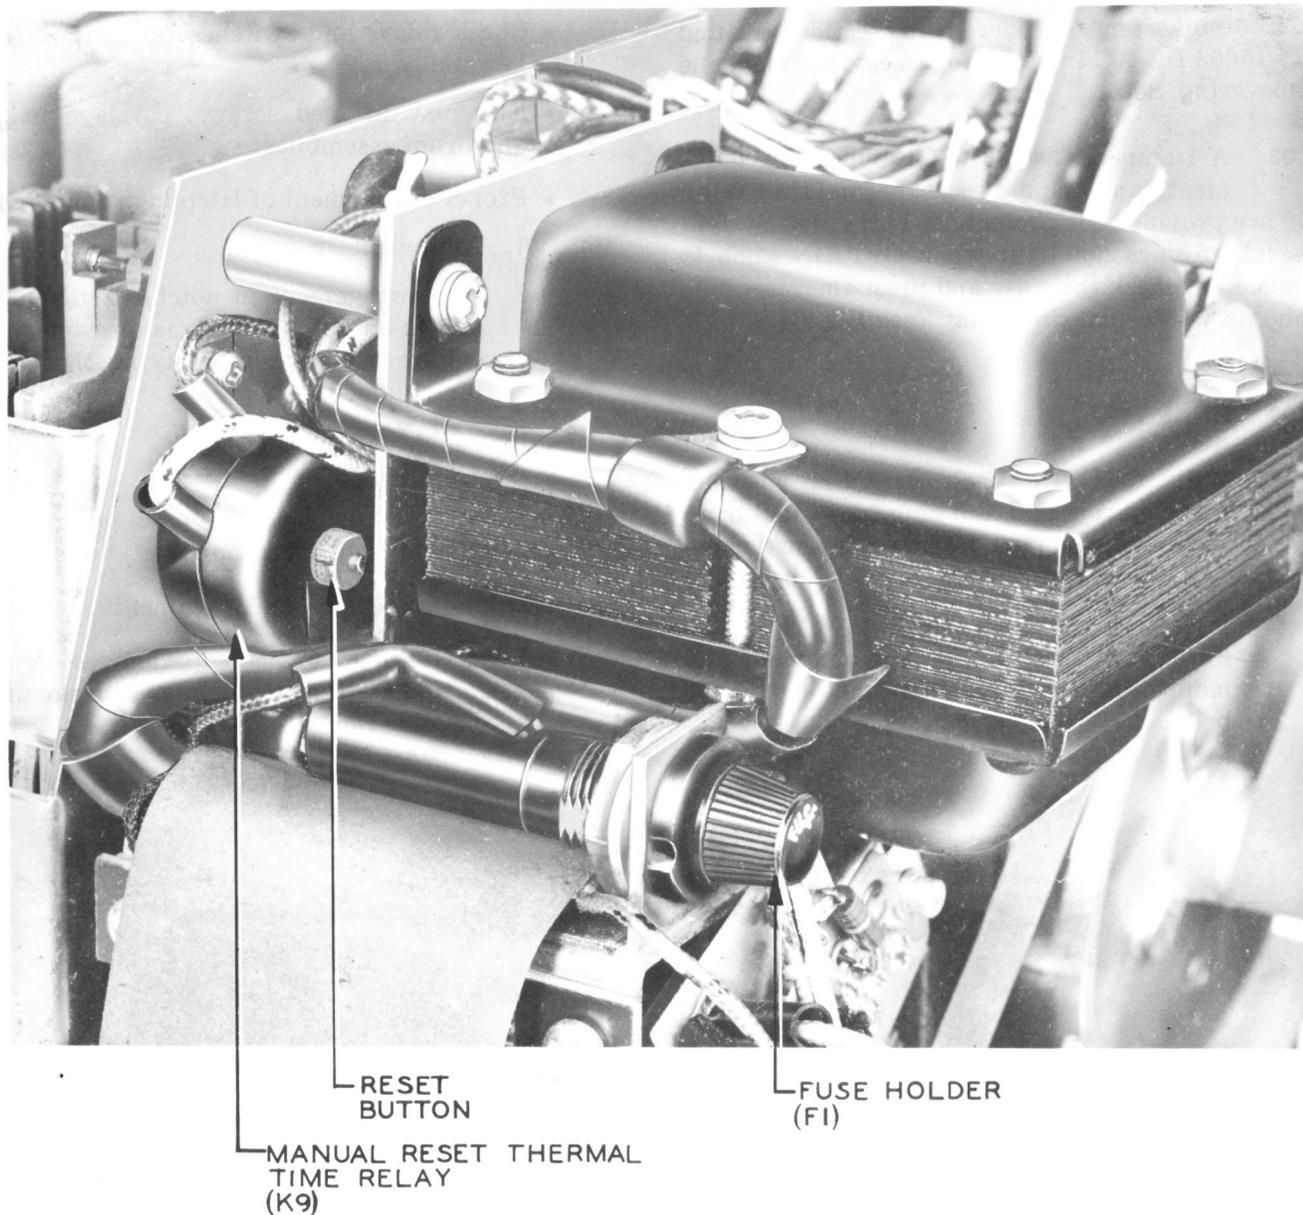

Fig. 5 - 1-Type Telephone Answering Set, Fuse Holder and Reset Button of Thermal Time Relay (K9)
4.03 A 1-ampere fuse (3AGC1 ampere or equivalent) and manual reset thermal time relay K9 are provided for protection. If the Bell System medallion does not light when OFF-ON knob is turned on, check this fuse and press the reset button on the thermal time relay (see Fig. 5).